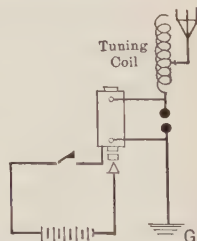

FIGURE 709. — SPARK SENDING SET.
**488. Spark Transmitting Set.** — The simplest form of transmitting set consists of a circuit like that shown in Figure 709. When the key is closed, sparks pass across